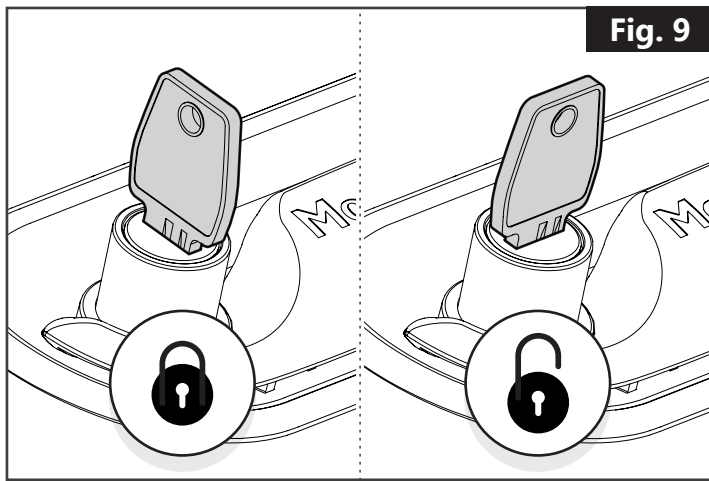

Fig. 9
- The Mountain Top Style can be locked or unlocked by turning the key accordingly. **(Fig. 9)**